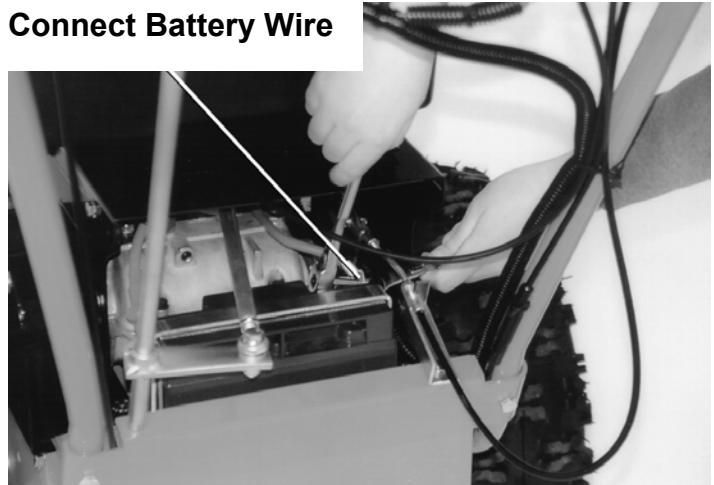

Figure 6
1. Connect the negative wire to the negative terminal on the battery (*Figure 6*).